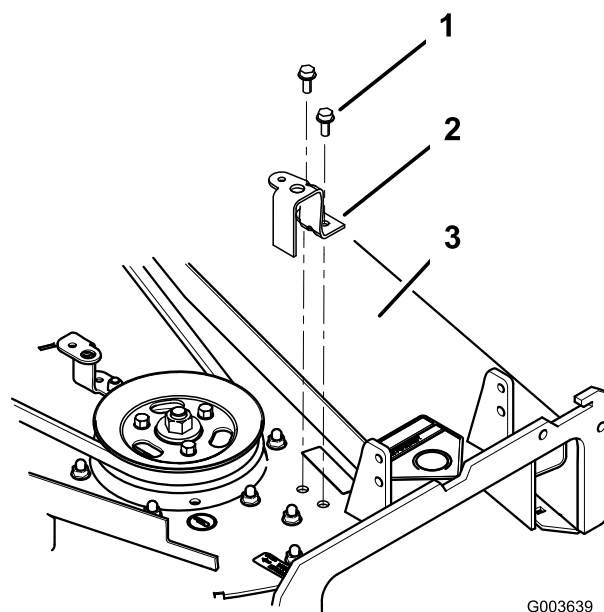

Figure 4
- Remove the belt cover support bracket from the mower deck (Figure 4).